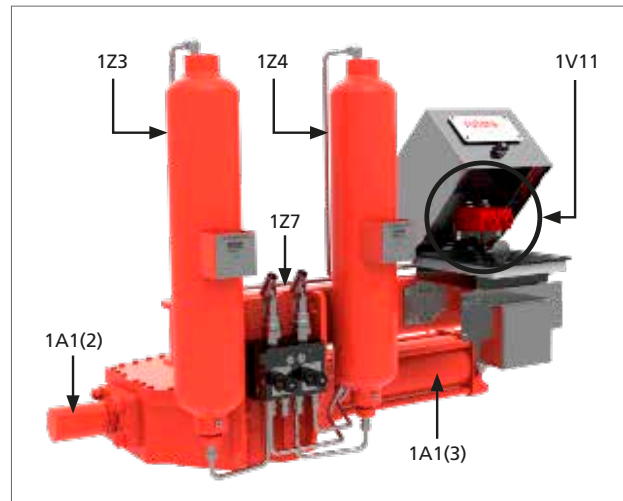
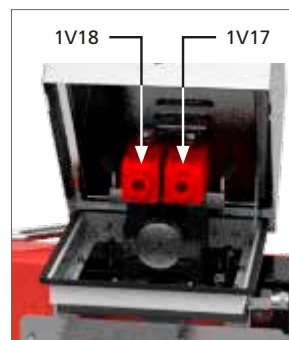
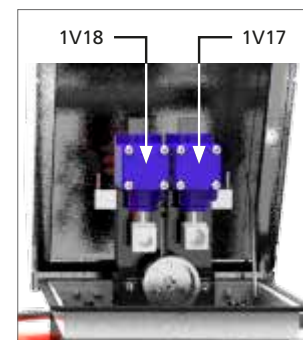
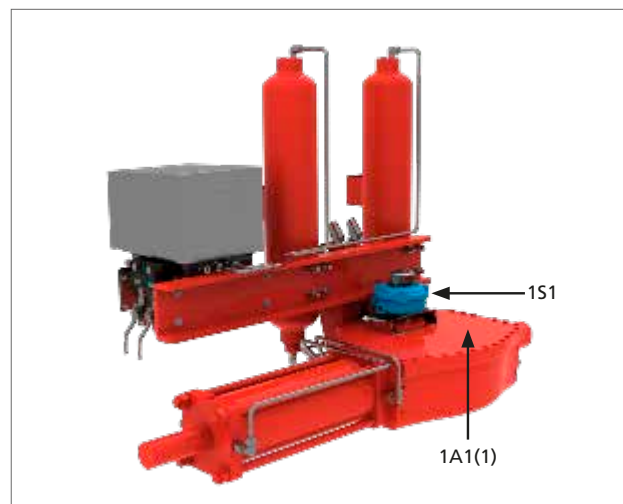

Fig 12.1 Gas Over Oil Main Components (1 of 2)
Fig 12.2 Gas Control (Type 1)
Fig 12.3 Gas Control (Type 2)
Fig 12.4 Gas Over Oil Main Components (2 Of 2)
The main components of a gas over oil actuators are shown in Fig 12.1, Fig 12.2, Fig 12.3 and Fig 12.4.
**(\*): Gas control could be of different types according to project specific requirements. Refer to Fig 12.2 and Fig 12.3 according to specific project documentation.**